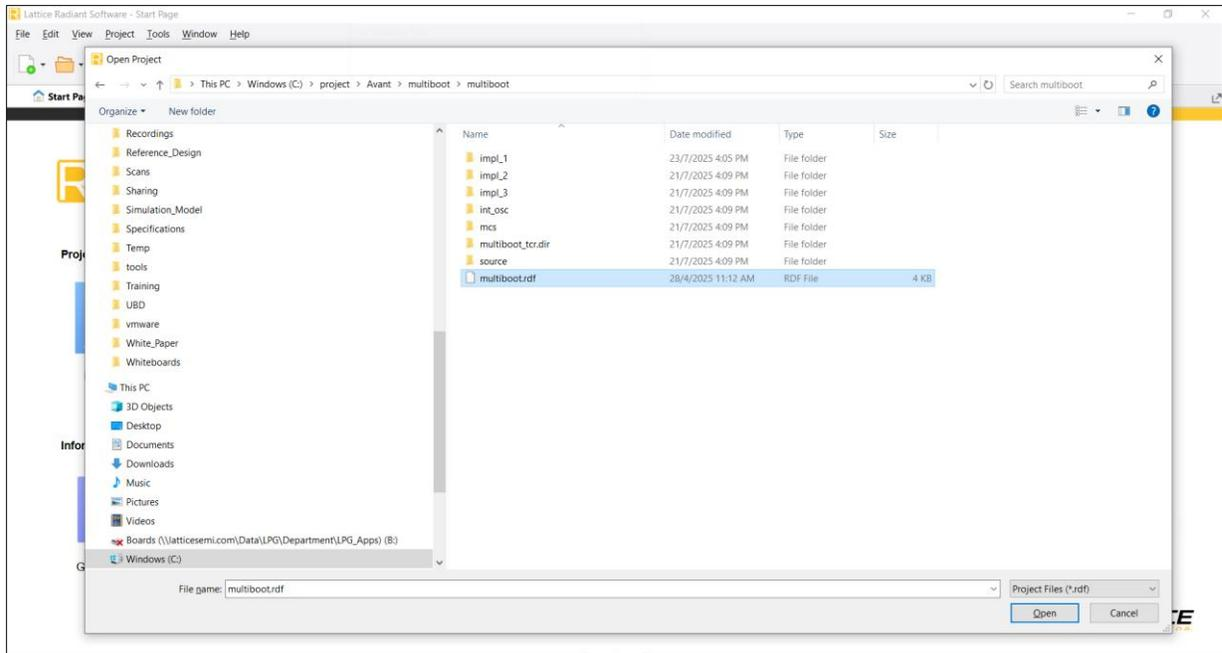

Figure 6.2. Open Project File
2. Click **File > Open Project**. From the project database, browse to the reference design project, the multiboot folder and open the Lattice Radiant project file, Immi2mspi.rdf, as shown in Figure 6.2.